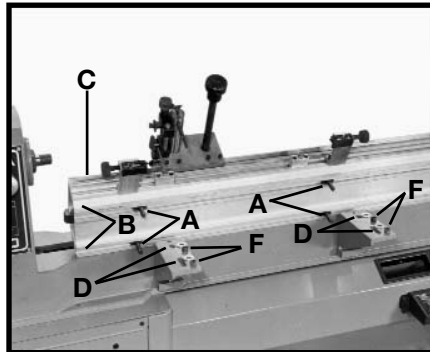

Fig. 29
4. Carefully guide the duplicator rail (C) Fig. 29, so four T-bolts (A) fit into four slots (D) in mounting brackets. Fasten duplicator rail (C) Fig. 29 to the mounting brackets using four M10 flat washers and M10 hex nuts (F).